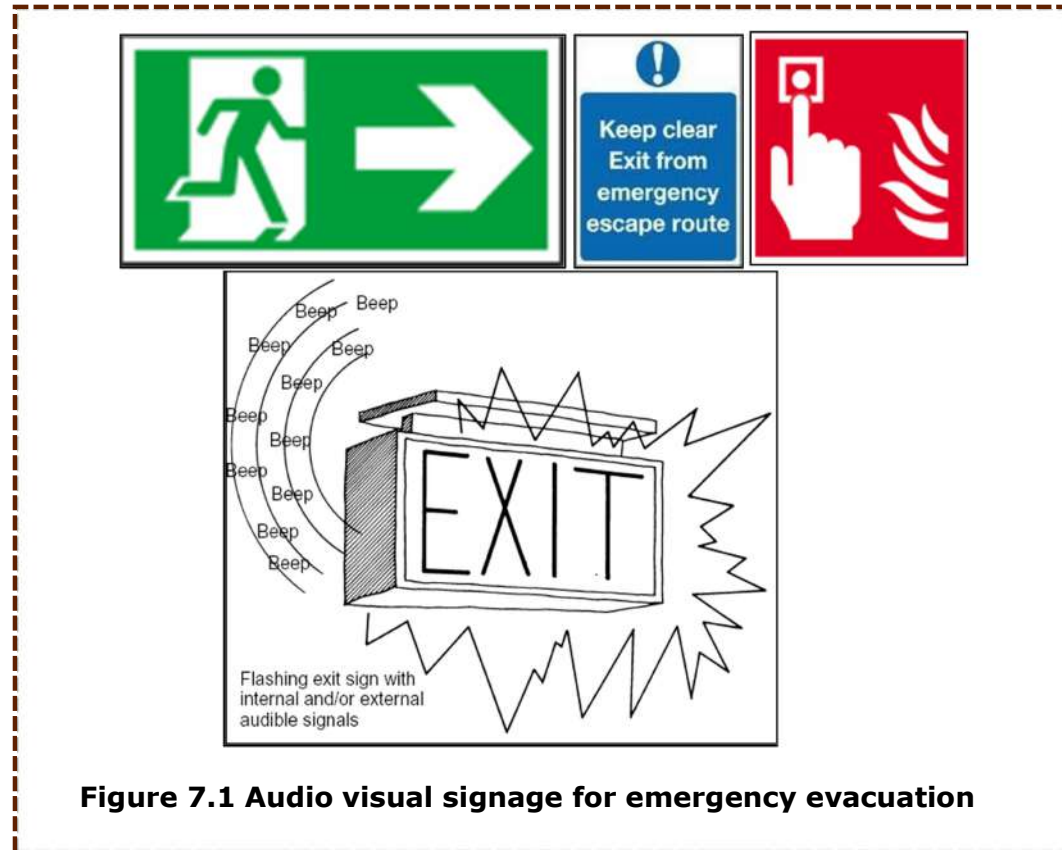

Figure 7.1 Audio visual signage for emergency evacuation
- Moreover, emergency exit lights in green color and directional signals mounted near the floor have been found to be useful for all people in cases where a lot of smoke is present (**Figure 7.1**)